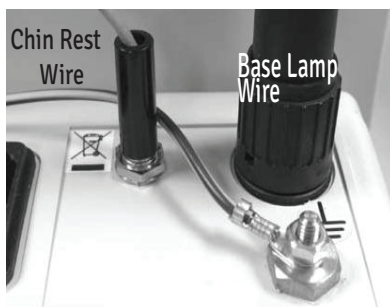

Figure- 8 Connections
12. Connect the Chin rest target light Connector to the Power Supply Assembly by plugging it in. Refer to Figure-8.